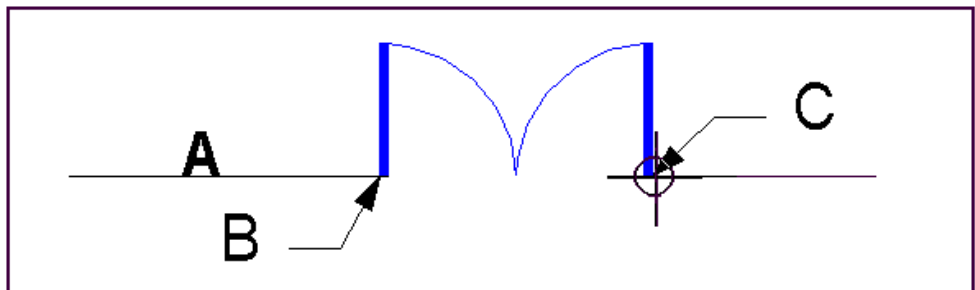

Figure 5.10 - Breaking an opening for the door symbol.
Next, we will use the Break (BR) command to break an opening in the wall where the doors are positioned. This command can be used to break an opening in any line, regardless of whether or not a door symbol is present. Refer to Figure 5.10 for the following steps:
Click on the line near point A in Figure 5.10.